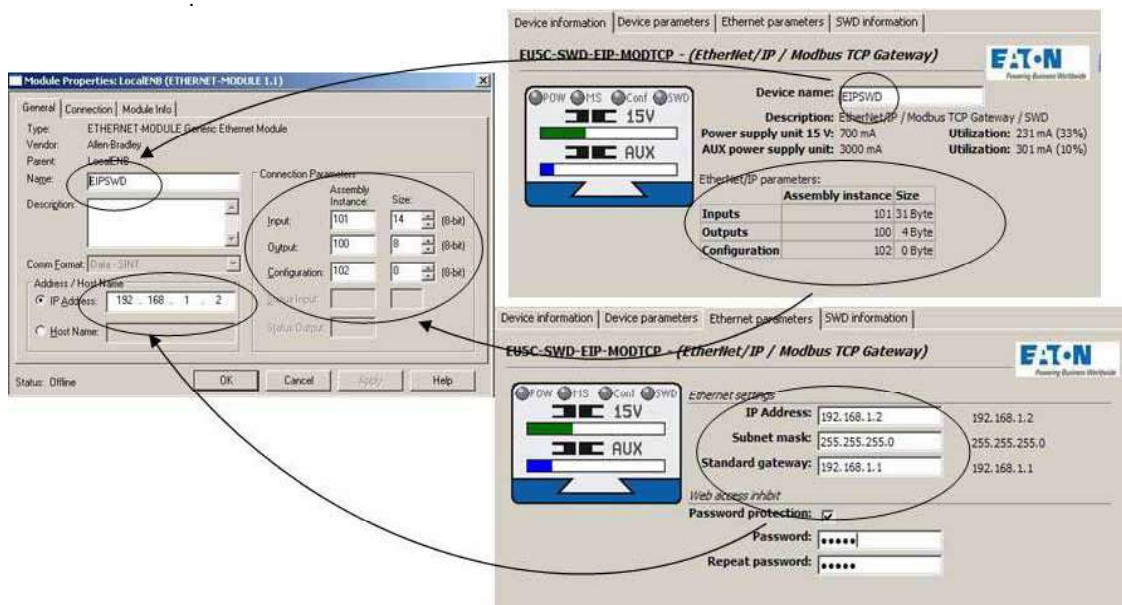

Figure 28: Entering the gateway parameters found in the SWD-Assist planning program into the RSLogix 5000 V19.01.00 PLC programming environment
The dialog box that follows, "Module properties...", → Figure 28 is used to configure important properties that are required in order to ensure that the controller and the gateway will be able to communicate successfully. On one hand, these include information regarding the relevant Ethernet connection parameters, such as the IP address and information regarding the type and volume of I/O data.
- ▶ Now copy the values for the inputs', outputs', and configuration data volumes found in SWD-Assist to the corresponding fields in the RSLogix 5000 parameter dialog box by hand → Figure 28.